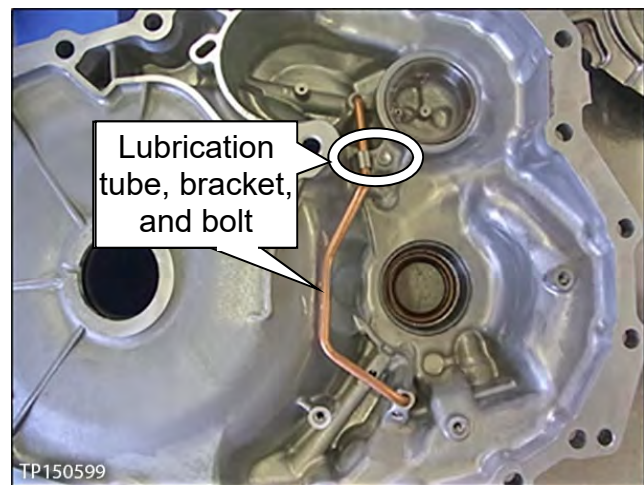

Figure 124
- b. Remove the bolt and then remove the lubrication tube and its bracket (Figure 124).